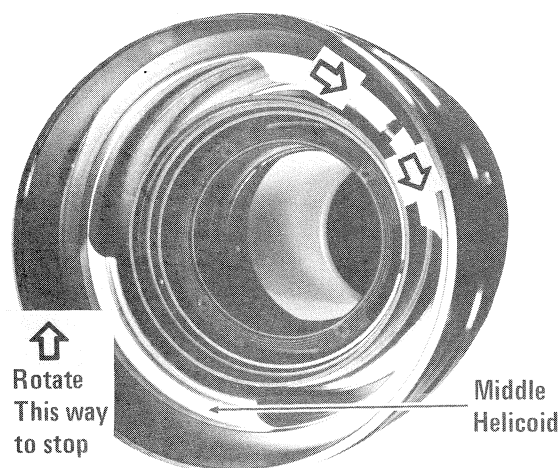

FIG. 5-12
1. Rotate the middle helicoid against the infinity stop. Fig. 5-12.